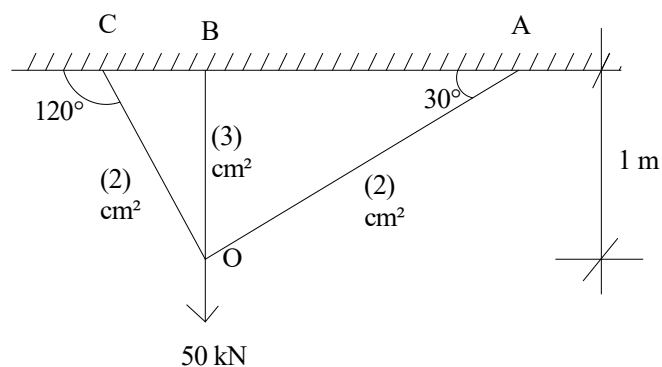

Fig.1
1. Determine the forces in the members of the truss shown in Fig.1 by matrix stiffness method. Take $E = 200 \text{ GPa}$.